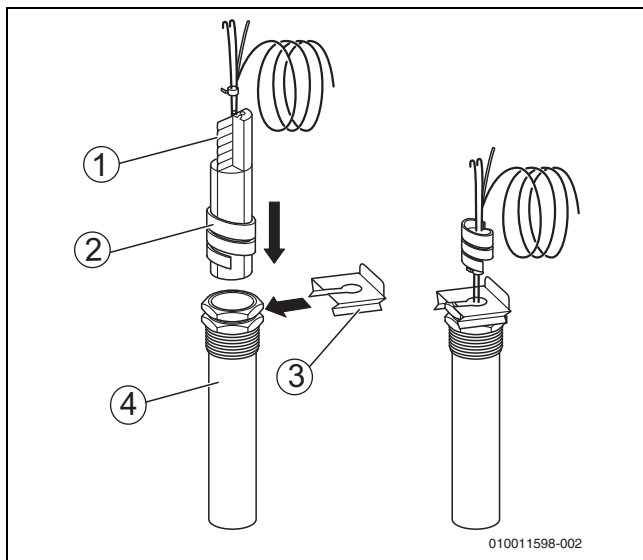

Fig. 22 Inserting the plastic coil into the sensor pocket
- ▶ Secure the temperature sensor set in the test point with a sensor retainer [3] (→ fig. 22, page 24).
The plastic coil [2] for keeping the temperature sensors together is pushed back automatically when it is inserted (→ fig. 22, page 24).
Insert compensating spring [1] between the temperature sensors to ensure a good contact between sensor pocket [4] and sensor surfaces, and thereby a reliable temperature transfer (→ fig. 22, page 24).